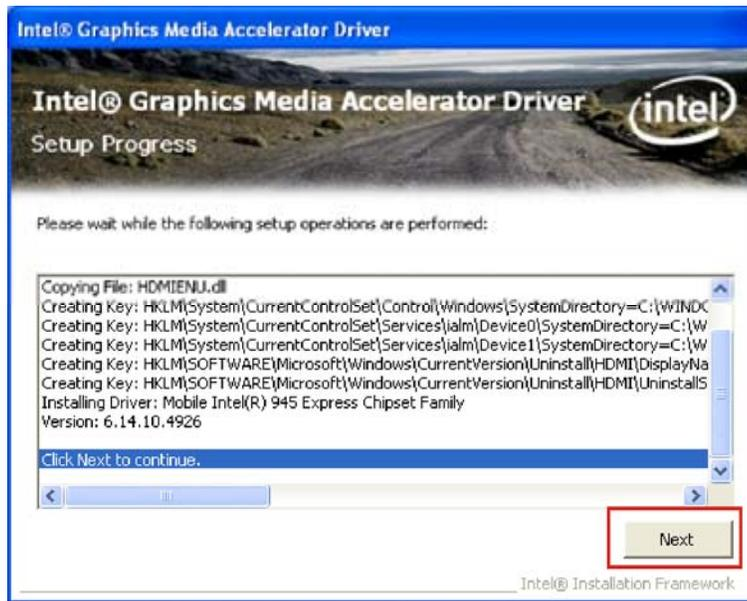

Figure 6-14: VGA Driver Setup Operations
Step 32: Setup Operations are performed as shown in Figure 6-14.